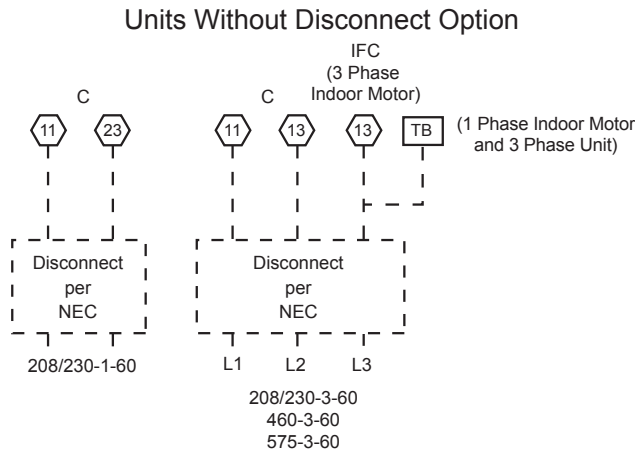

Fig. 16 - Power Wiring Connections
Field power wires are connected to the unit at line-side pressure lugs on compressor contactor C and indoor fan contactor IFC or terminal board (see wiring diagram label for control box component arrangement) or at factory-installed option non-fused disconnect switch. Max wire size is #2 AWG (copper only). (See Fig. 16)
The factory-installed option disconnect switch is located in a weatherproof enclosure located under the main control box. The manual switch handle is accessible through an opening in the access panel. Discard the factory test leads (see Fig. 16).
All Units: All field wiring must comply with NEC and all local codes. Size wire based on MCA (Minimum Circuit Amps) on the unit informative plate. See Fig. 16 and the unit label diagram for power wiring connections to the unit power terminal blocks and equipment ground. Maximum wire size is #2 ga AWG per pole.
2. Install power lines to terminal connections as shown in Fig. 16.